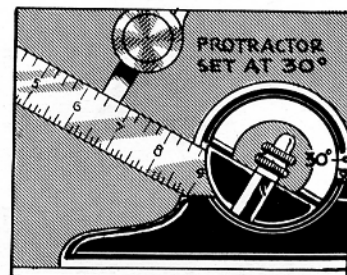

FIG. 391
**NOTE:** An alternate method of setting the tool to the correct angle is to use a protractor or gage (Fig. 391). The protractor is set at the angle 'A' which must be determined from the angle given on the drawing, or blueprint. The tool holder is then adjusted until the cutting edge of the tool and the blade of the protractor are parallel.